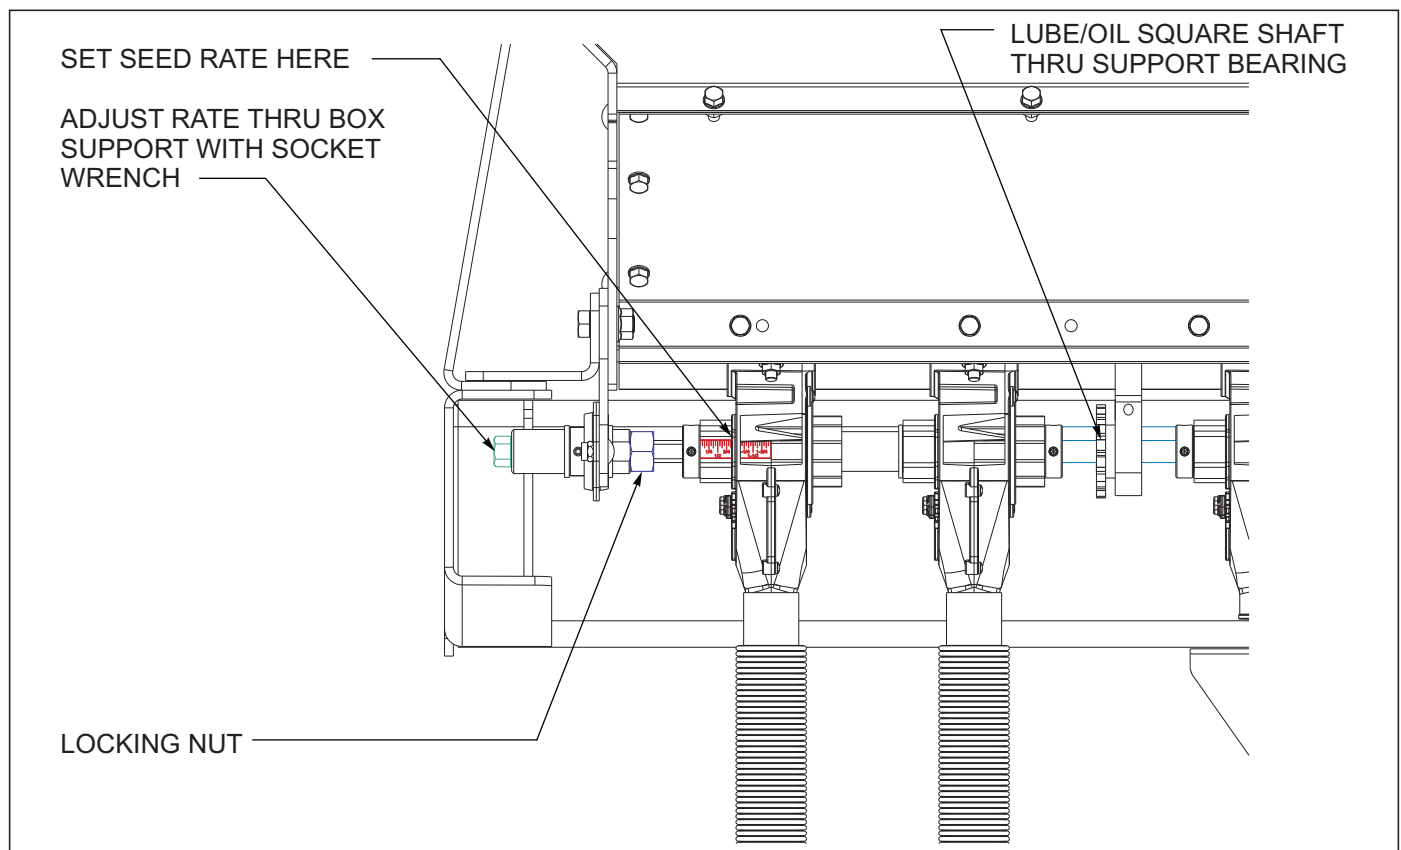

Figure 4-10: Seed Rate Adjustment
1. The seeding rate is adjusted for each section with the threaded seed rate adjustment at left end of drill, the 20' drill has adjustments on both ends. The end seed meter next to the adjustment has an indicating scale for reference. Read the scale along the outside edge of the seed meter to determine the setting. The seeding rate should be set the same for all sections **See Figure 4-10.**
5. Start with the end meter(s) next to the threaded adjustment *See Figure 4-10*. Slide the feed roll and cut-off to the right until the indicator reads zero on the end meter. Remove any remaining slack between the spacers, washers, feed rolls etc. and secure the lock collars on each end of that group of meters. Continue to work across the drill section sliding the meter feed rolls to the right, removing any slack, and securing the lock collars for each group of meters.